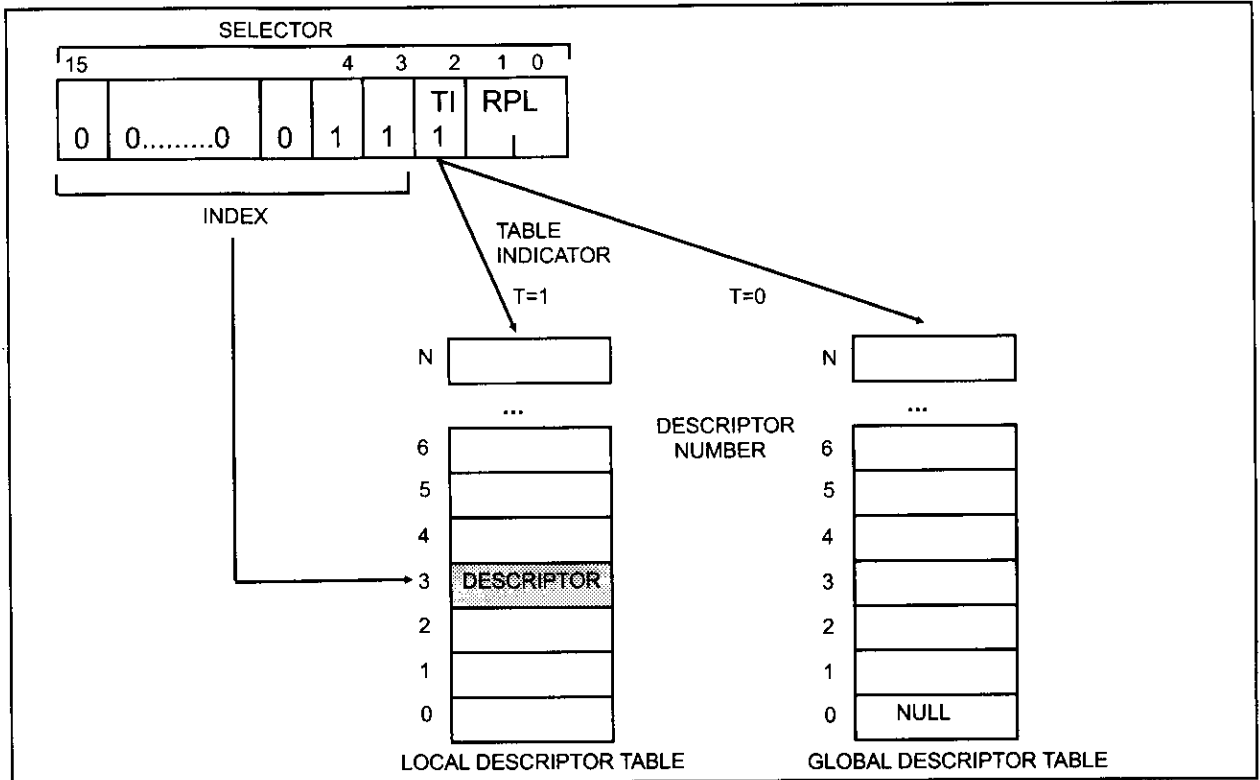

Figure 21-9. LDT and GDT Selection
There are two types of descriptor tables for the 386: the local descriptor table (LDT) and the global descriptor table (GDT). The GDT is used for the system, and individual tasks can have their own LDT. How do the segment registers know which one they are accessing? The third bit (TI) of the segment register (referred to as the selector) always indicates which table should be used. See Figure 21-9.
As seen in Figure 21-9, the 14 bits of the selector (segment) register can have  $16,384$  ( $2^{14}$ ) possible combinations. Each possible value can access a descriptor that can hold addresses of memory chunks as large as 4 gigabytes. Therefore, we have  $2^{14} \times 2^{32} = 64$  terabytes of virtual memory for the 386 (recall that *tera* is defined as  $2^{40}$ ). To put it another way: The 386 can access 64 terabytes of hard disk (virtual memory) as long as the virtual memory is broken down into 4 gigabyte pieces, since it has only 32 address pins. While the segment limit in the 8086/286 is 64K bytes, the segment limit in the 386 was raised to 4G. One of the drawbacks of 386 segmentation is its variable segment size, which leads to memory fragmentation. Another is the absence of what is called a *dirty bit* in the access byte of the descriptor table. Assume that there is some memory that can be written into. The accessed (A) bit indicates if the data has been accessed but does not indicate if any new data was written into it. Why should the operating system care if the memory is altered (written into)? If the data is altered, it is the job of the operating system to save it on the disk to make sure that the hard disk always has the latest data. If the dirty bit is zero ( $D=0$ ), it means that the data has not been altered and the operating system can abandon it when it needs room for new data (or code) since the original copy is on the hard disk. This will save time for the operating system. If the dirty bit is one ( $D=1$ ), the operating system must save the data before it is lost or abandoned. Both problems of variable segment size and lack of a dirty bit in segmentation are fixed in the paging method of virtual memory.